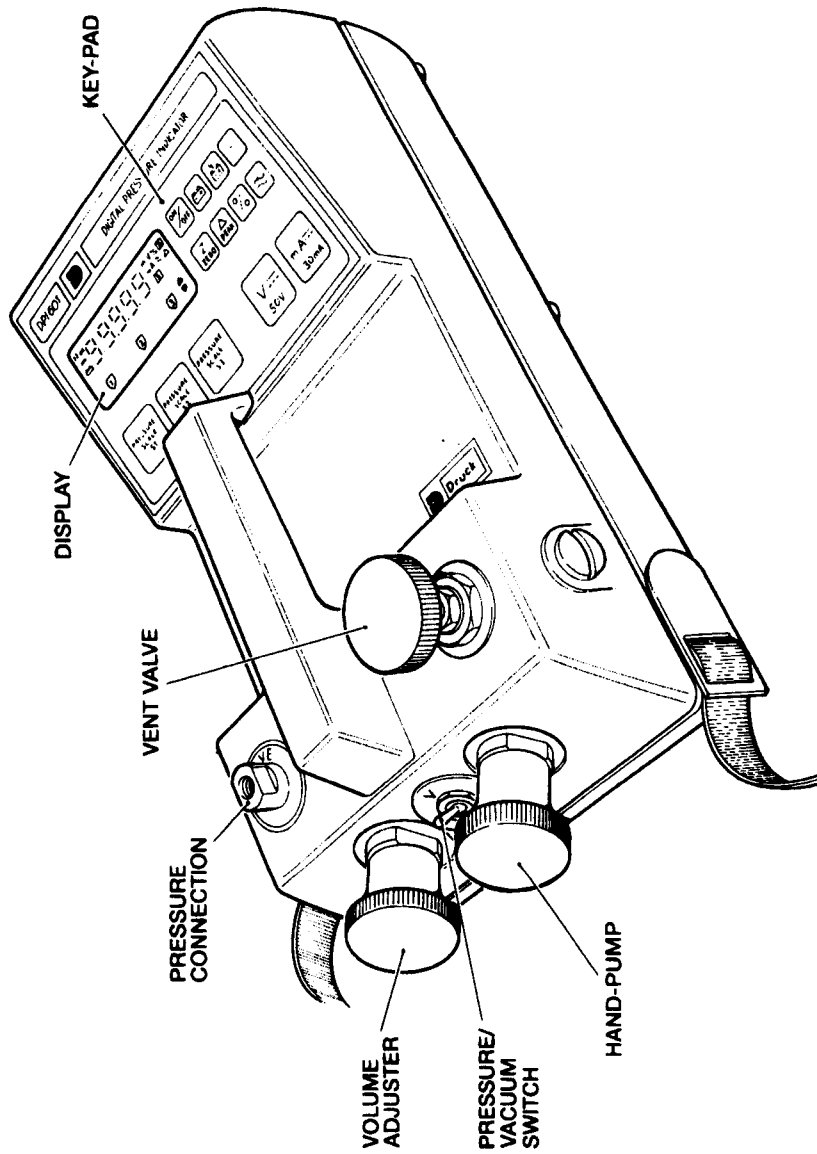

Figure 2, Instrument Controls
3.1 Modes of Operation (Figure 2)